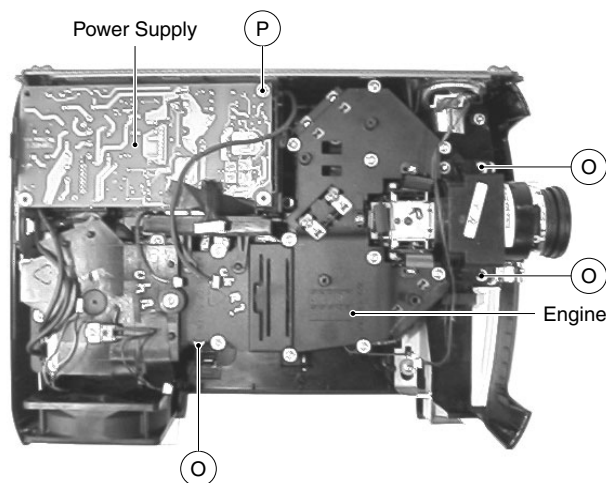

Fig. 13
1. Remove the 3 screws "O" to remove the engine (Fig. 13).